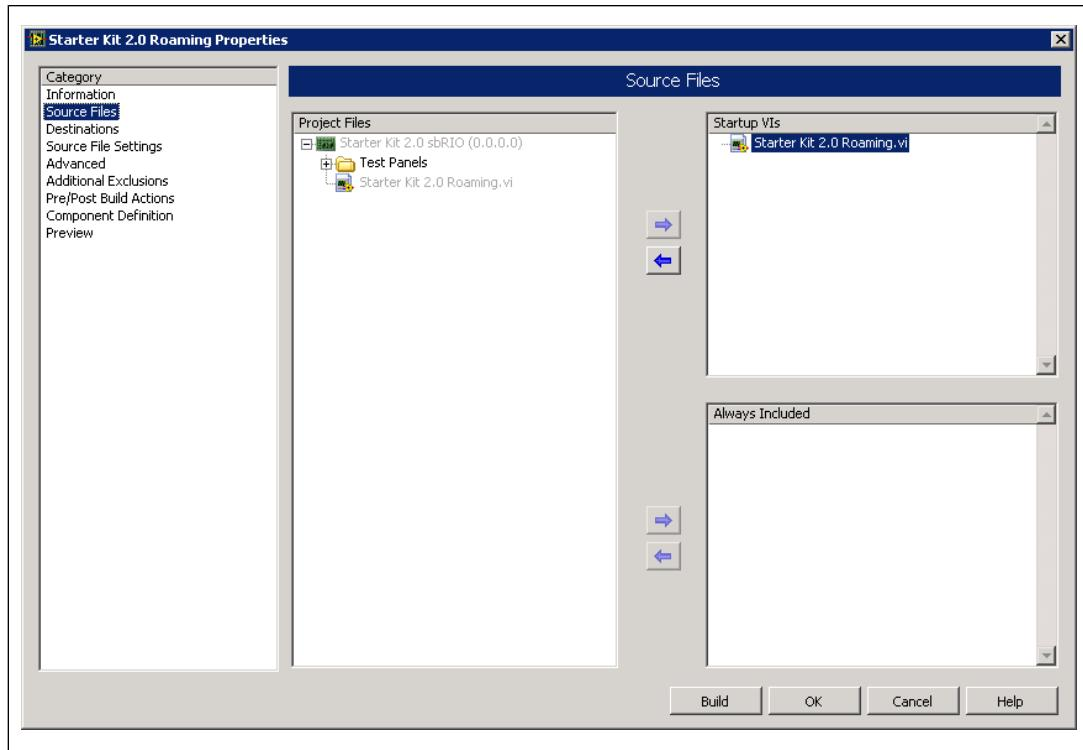

Figure 9. Selecting a Startup VI
5. From the **Project Files** tree, select the **Starter Kit 2.0 Roaming.vi**, located under the RT target, and click the right arrow button to move the VI into the **Startup VIs** list, as shown in Figure 9. VIs in the **Startup VIs** list execute when you launch the application.